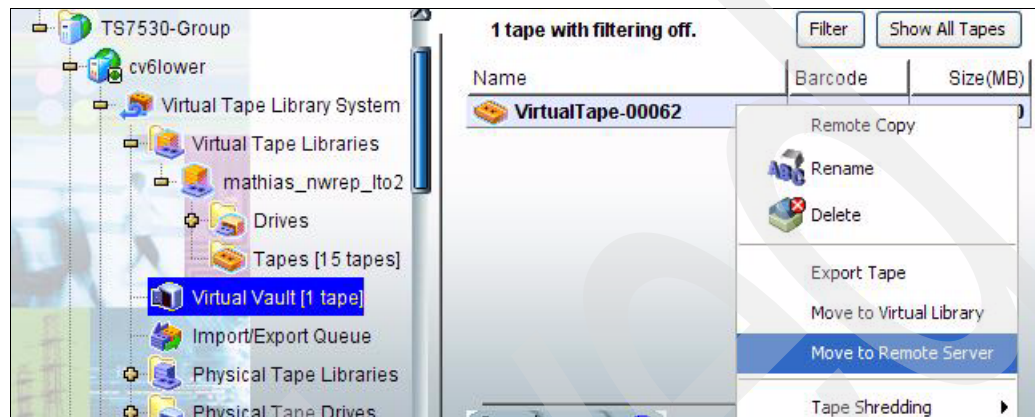

Figure 12-28 Move virtual tape to remote server
1. Use the VE for Tape Console by first selecting **Virtual Vault**, then right-clicking **virtual tape** and then selecting **Move to Remote Server** as shown in Figure 12-28.